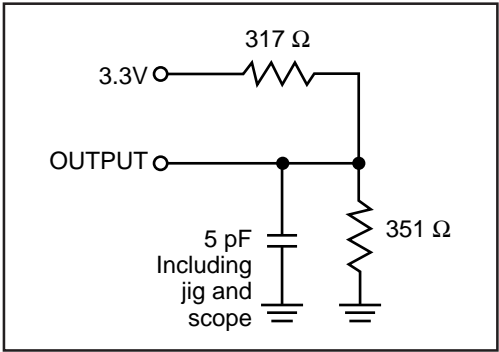

Figure 2
3. Tested with load in Figure 2.
2. Tested with load in Figure 2.